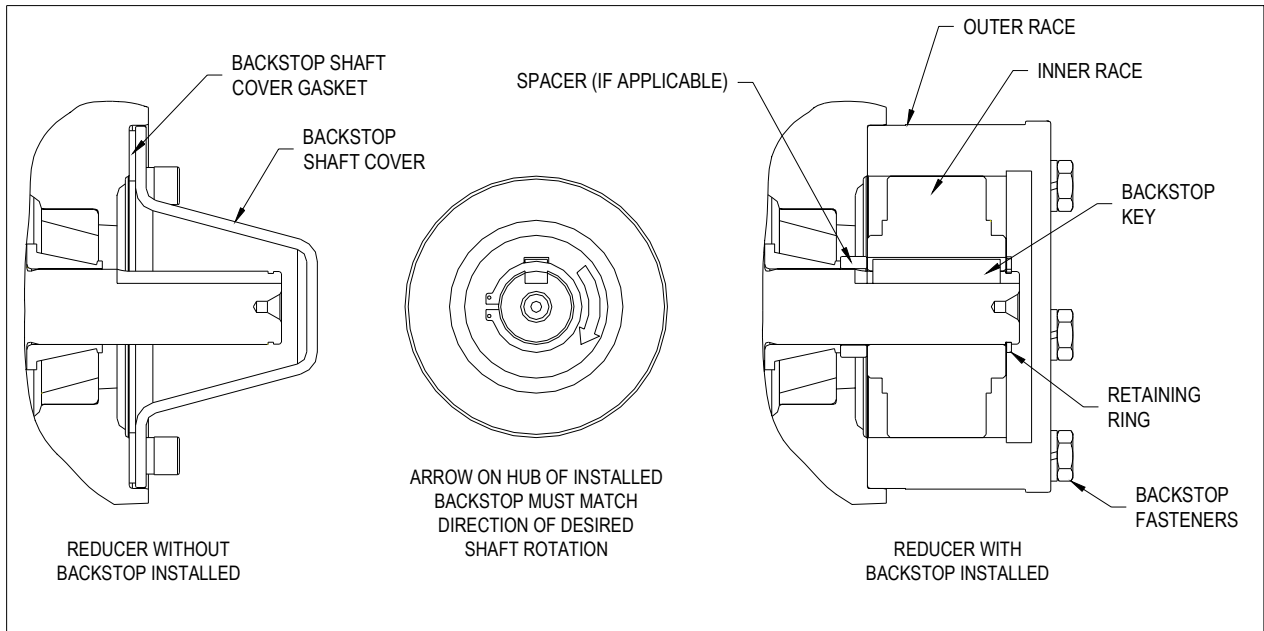

Figure 7 – Backstop Assembly
1. Remove backstop shaft cover and gasket, shown in Figure 7. These parts will not be reused. This cover is directly opposite the extended end of the input shaft.